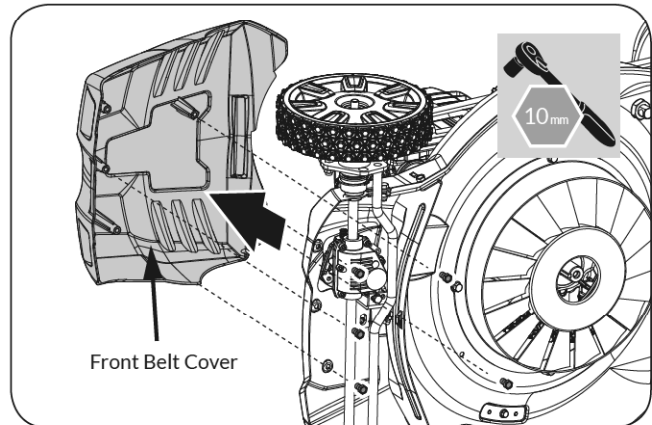

Figure 27
2. Remove the five bolts fix the front belt cover and removing the front belt cover. (See **Figure 27**)